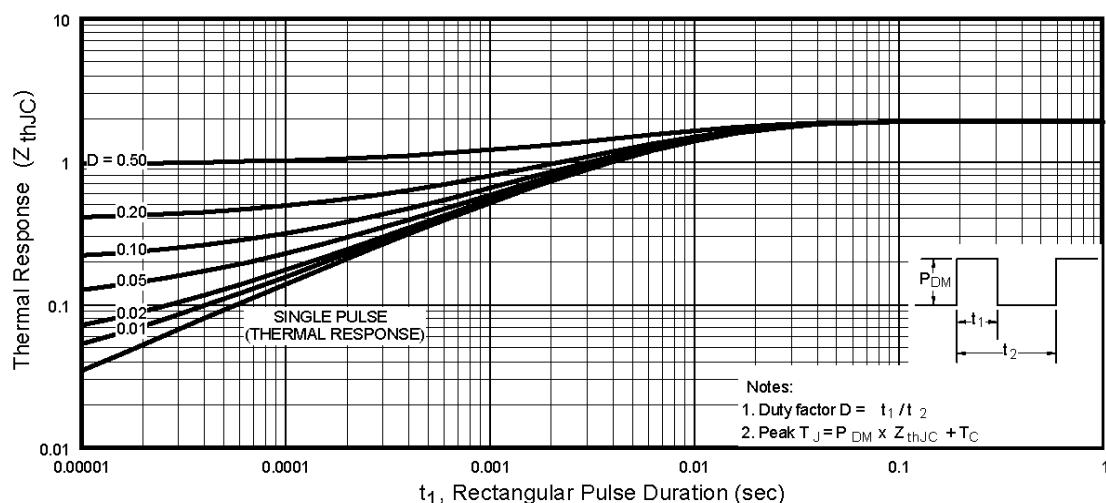

Fig 11. Maximum Effective Transient Thermal Impedance, Junction-to-Case
- ① Repetitive rating: pulse width limited by max. junction temperature. (See fig. 11)